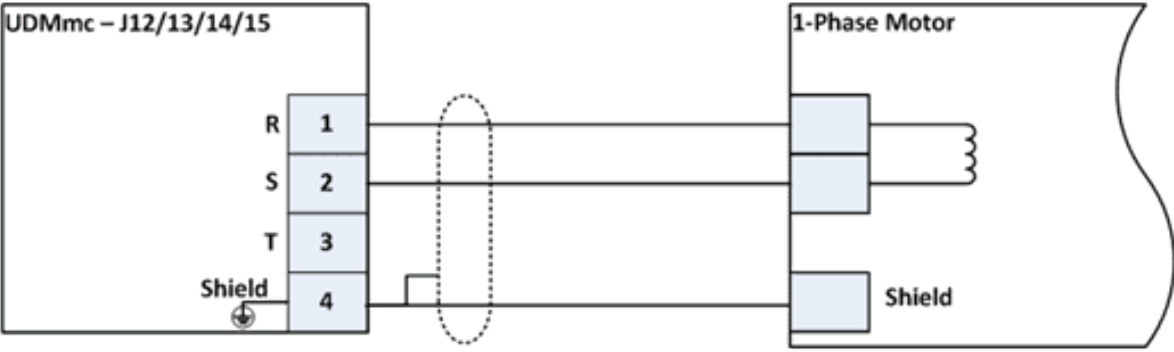
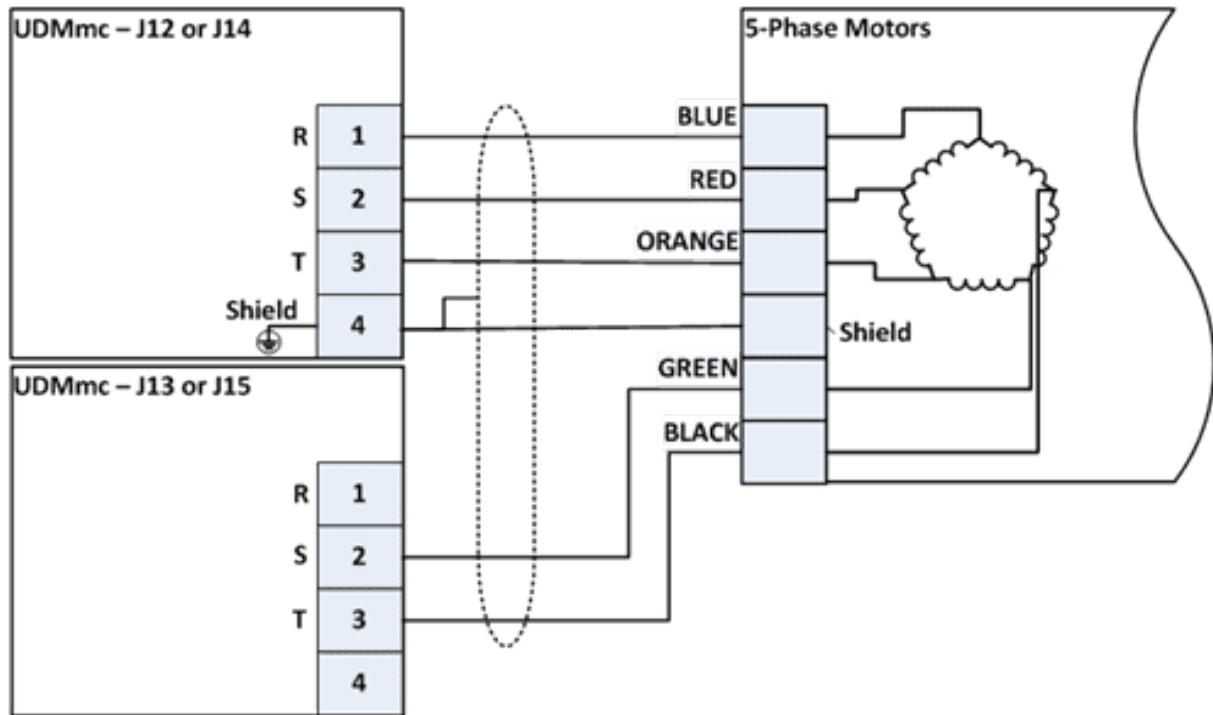

Figure 3-11. 1-Phase Motors (DC Brush, Voice Coil) Connections
Figure 3-14. 5-Phase Step Motor Connections (example of an Oriental Motor)
- > 1-phase (DC brush, moving coil), see Figure 3-11.
- > 5-phase (step motor. Consult company), see Figure 3-14.
Connect the motors according to Figure 3-11 through Figure 3-14.